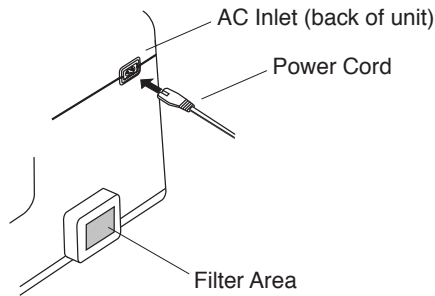

FIGURE 3-5 CONNECTING THE POWER CORD TO THE DEVICE
2. Plug the power cord's connector into the power inlet on the back of the device, as shown in Figure 3-5.